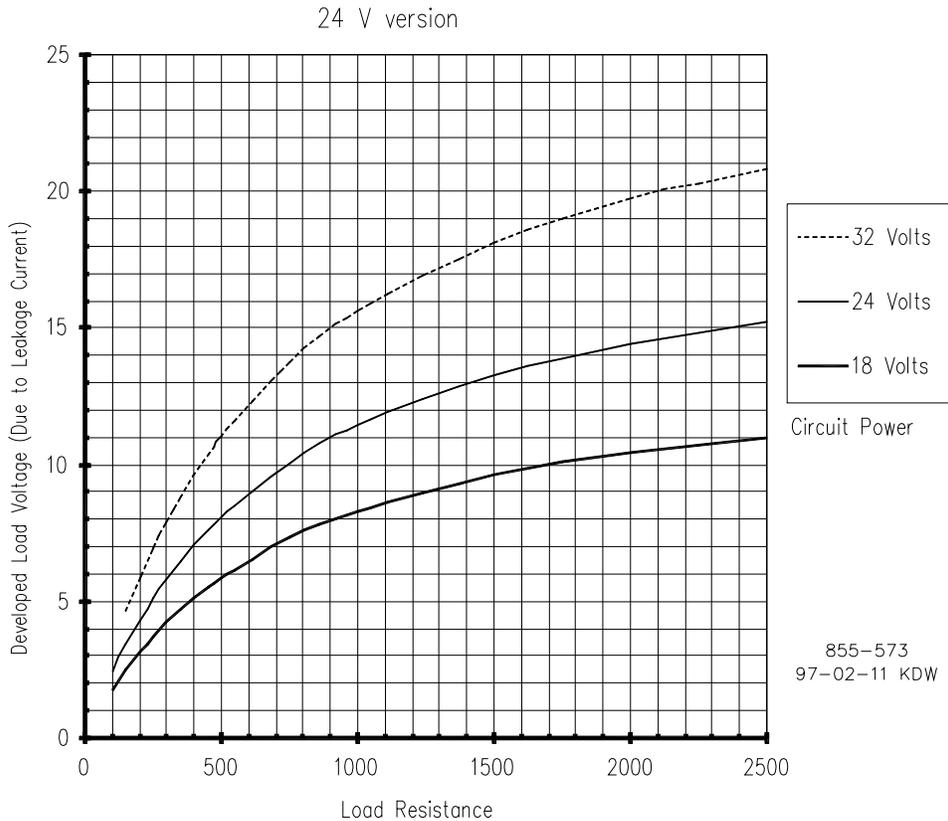

Figure 4-10. Latent Fault Detection Verification Graph—18–32 Vdc Circuitry
2. Use the graph below (Figures 4-10, 4-11, or 4-12) which corresponds to the circuit's voltage level to determine if the voltage developed across the load (due to the leakage current) is lower than the load's drop-out voltage level.